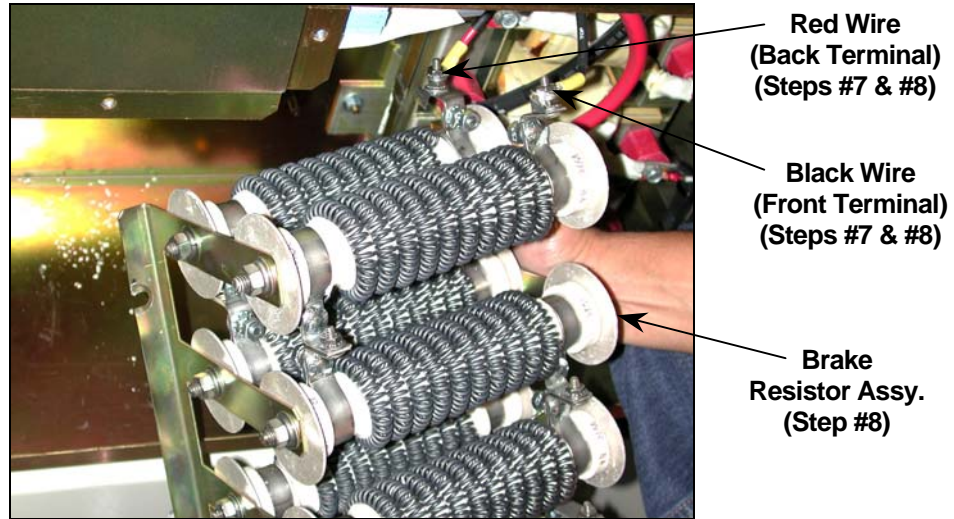

Figure 4. Accessing Wiring Terminals
7. Gently, pull the resistor assembly forward to clear the studs, and then lower it slightly to access the two terminals at the top right side of the resistor assembly (see Figure 4). Note that a black wire is connected to the front terminal and a red wire is connected to the rear terminal.
8. Remove the two 10-24 nuts (see Figure 4) using a 3/8-wrench, and disconnect the red and black wires. Remove the Brake Resistor Assembly and discard it.